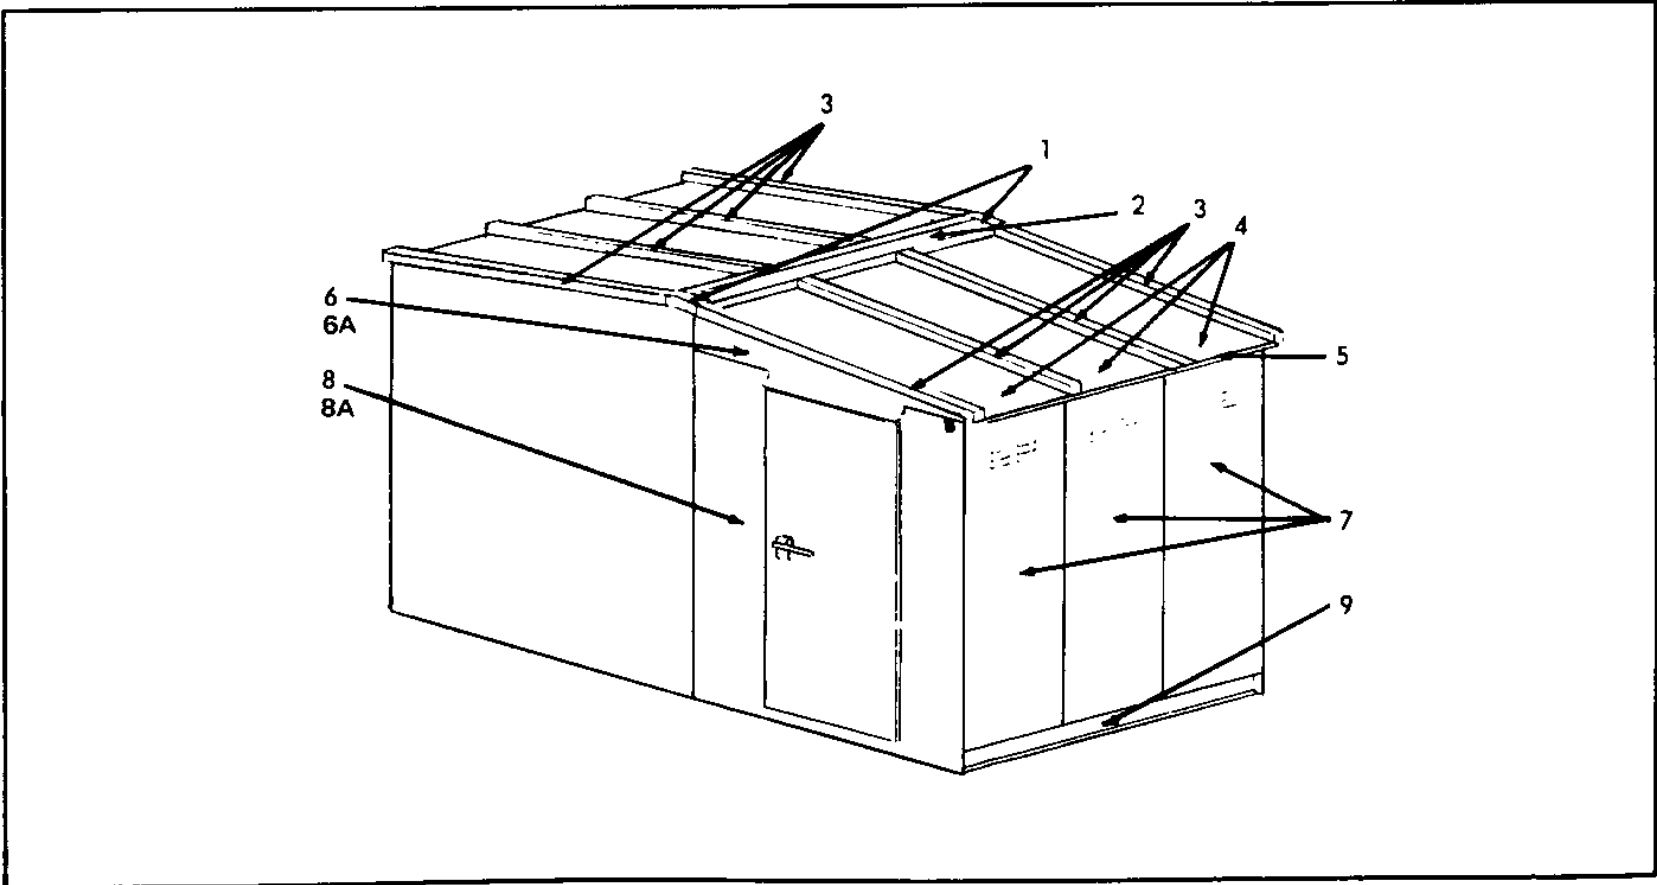
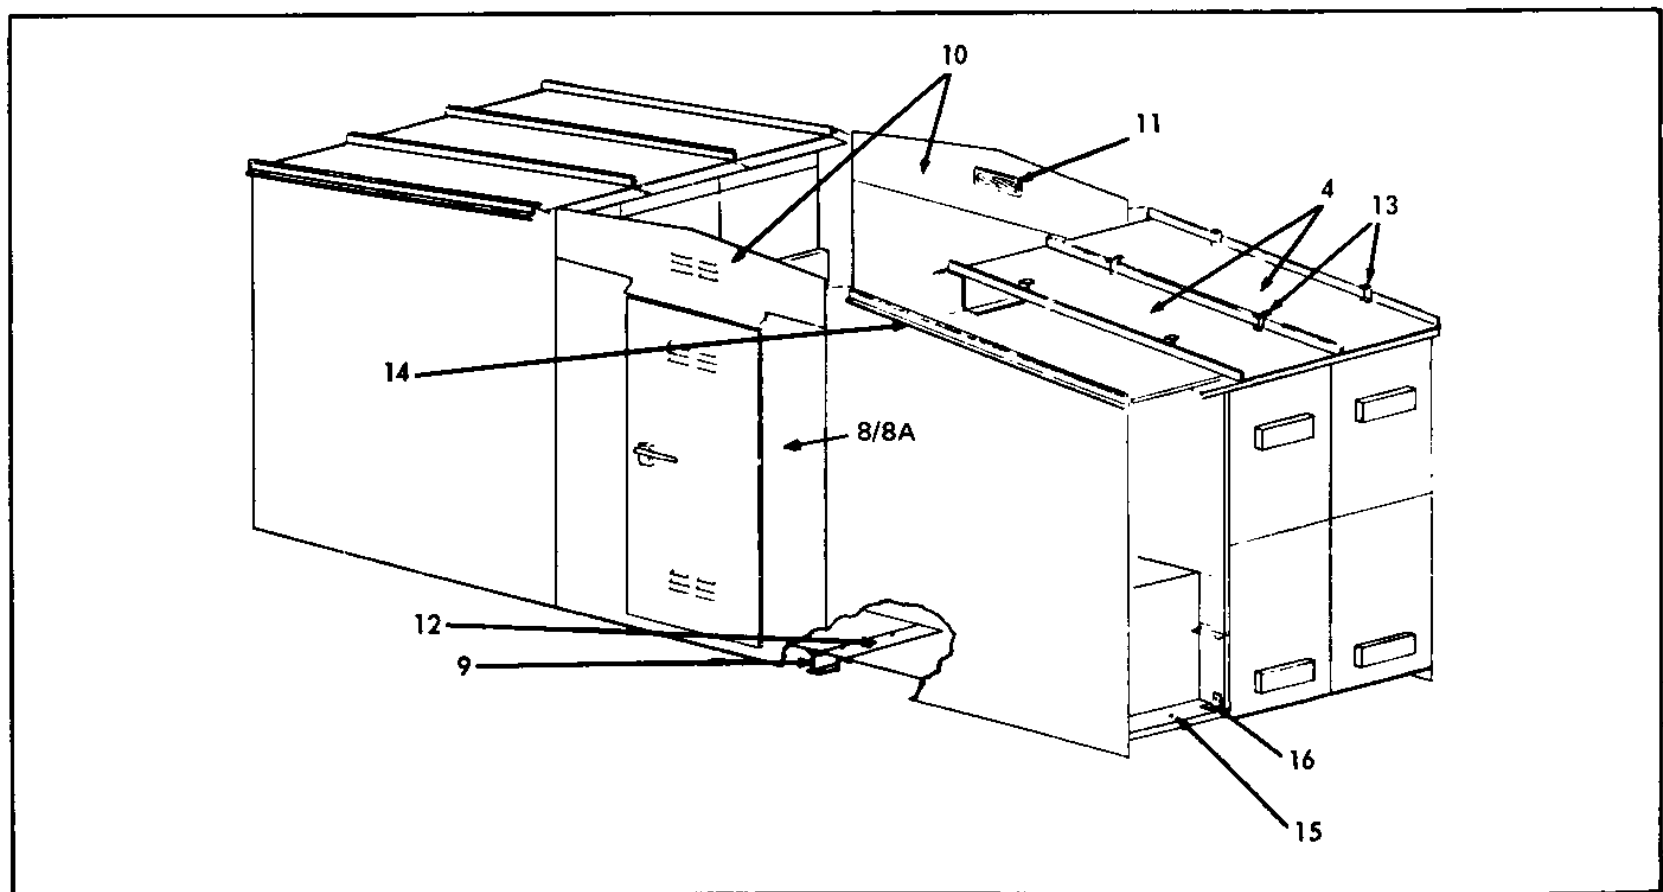
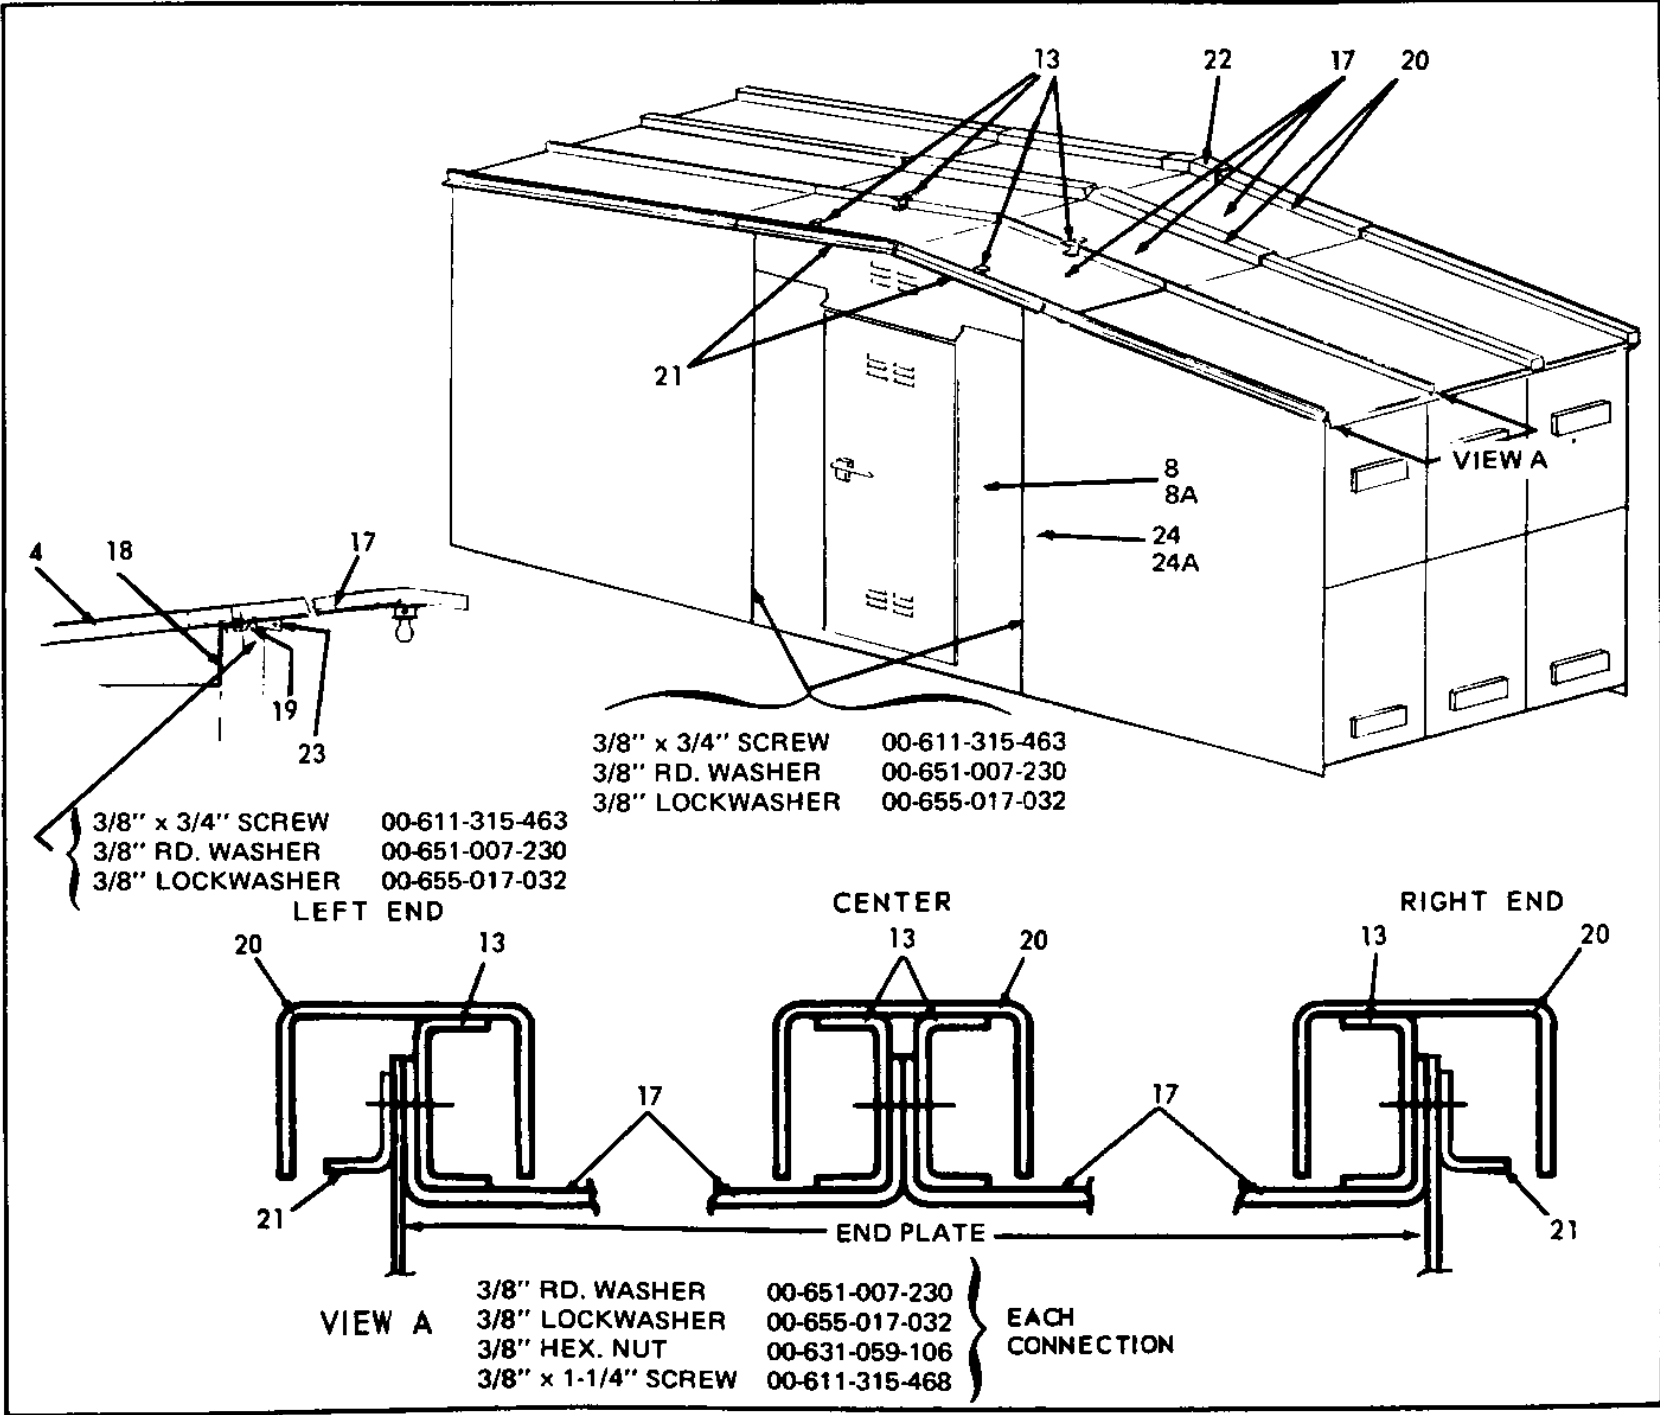

Figure 44. Removing Components from Existing Switchgear
Figure 45. Installing New Equipment
Figure 46. Roof Installation
1. See Figure 44. From the existing switchgear remove the gable ends (1), and roof gable (2). Discard these parts.
2. Remove the roof channels (3), roof covers over aisle (4), formed cover (5) and all associated hardware. On 5 KV switchgear save all these pieces. On 15 KV switchgear save only the cover (5) and associated hardware.
4. Remove front plates (7) by unbolting from door frames (8 and 8A) and from I-Beam (9). Discard plates (7) but retain filter (11).
5. Move new switchgear into position as shown on the general arrangement floor plan. See Figure 45.
7. Install new plates (10). Mount filter (11) salvaged from front plate (7).
8. Install adaptor floor plates (12) between the new units and the I-beam (9).
9. Mount roof covers (4) on the new units, bolting together using special channel brackets (13) similar to the aisle construction just disassembled.
10. Add trim angle (14) at each end of the group. (On 15 KV equipment items 4, 13 and 14 are shipped assembled).
11. When installing conduit, drill plate (15) to suit. Clamp plate with angle (16).
12. See Figure 46. Place aisle roof decks (17) in position. Bolt them to the roof support (18) using bevel washers (19). See inset.
13. Bolt roof decks (17) together with brackets (13). See view "A". Leave hardware finger tight until Step 15 is complete.
14. Set channel-shaped covers (20) over the joints of roof decks and slide up the covers so the clips on the inner surface (See Figure 46) engage the brackets (13).
15. Add trim angle (21) to each end of the aisle. Tighten bolts.
16. Bolt hoods (22) over the roof channels.
17. Add four covers (23) to seal crack between top of door frame (8) and end plate (24 and 24A) joint. Mount light as shown.
1. Remove end gable assembly (1, Figure 44) from single aisle equipment. Remove the end hood (22, Figure 46) if switchgear has a common aisle.
2. Remove the channel-shaped covers (20) over roof joints from both aisle and switchgear unit. Do this by removing hardware from peak end of the